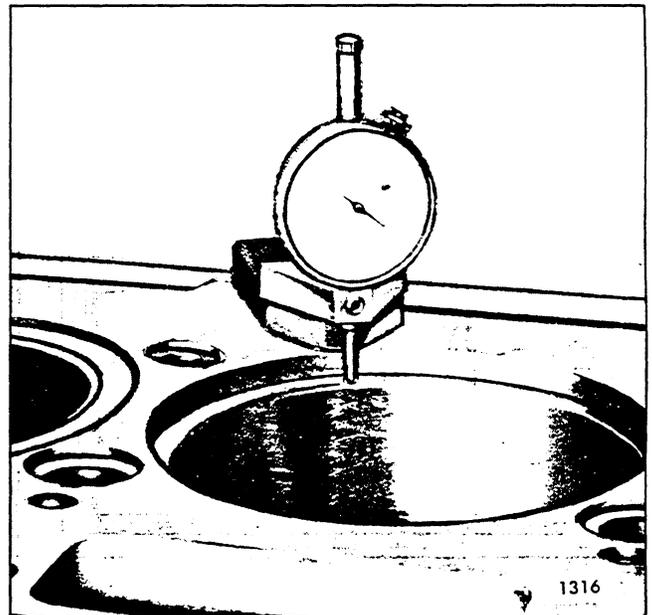

Fig. 18 - Checking Depth of Counterbore for Cylinder Liner with Tool J 22273
6. Make sure the cylinder liner counterbores in the block are clean and free of dirt. Then check the depth (Fig. 18). The depth must be .4770" to .4795" and must not vary more than .0015" throughout the entire circumference. The counterbored surfaces must be smooth and square with the cylinder bore within .001" total indicator reading. There must not be over .001"